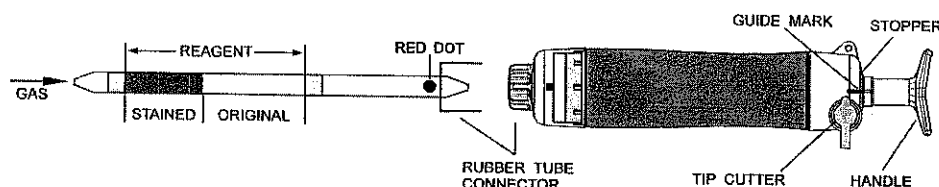

Fig.1
- ① Break both ends of detector tube.
- ② Insert the detector tube into aspirating pump securely as shown in Fig.1. (Red dot shall point to the pump.)
- ③ Align the guide marks on the shaft and stopper of the aspirating pump.
- ④ Pull the pump handle at full stroke until it locks and wait for 2 minutes or until the completion of sampling is confirmed with the flow indicator of the pump (See descriptions about the flow indicator in the instructions of the pump).
- ⑤ On completion of sampling, remove the detector tube from the pump. Align the zero end of the detecting reagent (inlet side of the tube) with the "0-0" line on the concentration chart and the other end with the "X-X" line respectively. Read the concentration at the top of the maximum point of the stained layer against the scale on the chart.